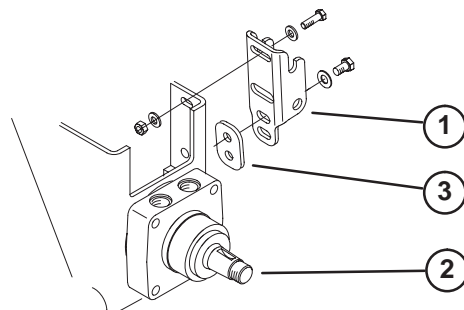

Figure 6
- On Sand Pro 2020/3020 – Mount top of receiver bracket to frame with a 3/8-16 x 1.50" lg. capscrew, (2) .40 I.D. x .81 O.D. flat washers and locknut. Mount bottom of receiver bracket to frame with a 1/2-13 x .875" lg. capscrews and (2) .56 I.D. x 1.063 O.D. flat washers. Position components as shown in figure 6.
Note: Spacer, shown in figure 6, is also required If machine is equipped with fenders.